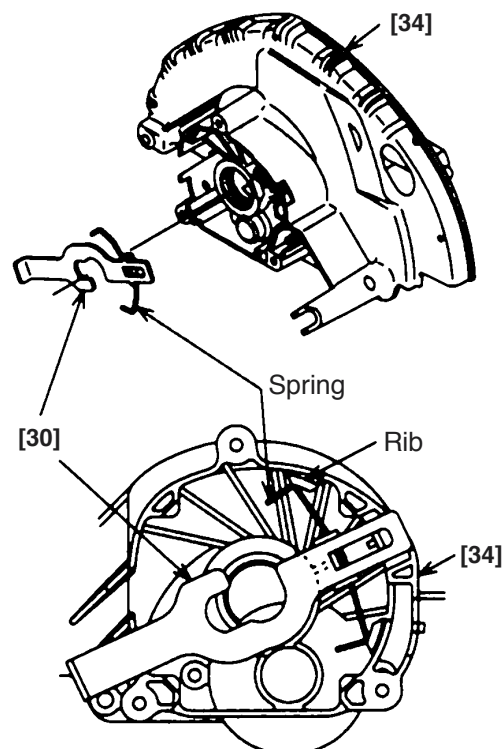

Fig. 3
(4) Reassembly of the Lock Lever [30] (See Fig. 3)